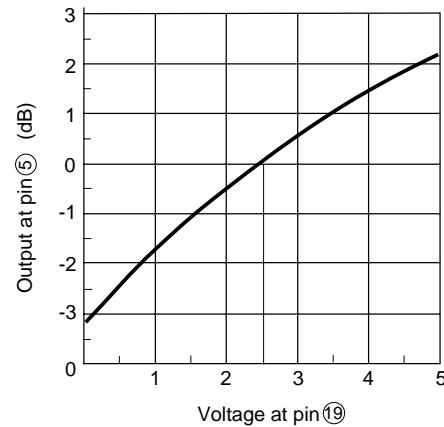

Fig. 3 Color control characteristics
(5) Color control characteristics
Gain in chroma section can be set as shown in Fig. 3 by applying voltage to pin ⑨ (COLOR CONT.). (The burst amplitude is fixed.)